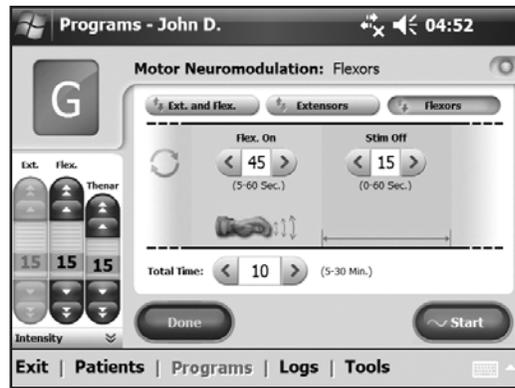

Figure 8-31: Program G, flexors window.
1. Adjust flexors on time, stimulation off time, and total time. See Figure 8-31.